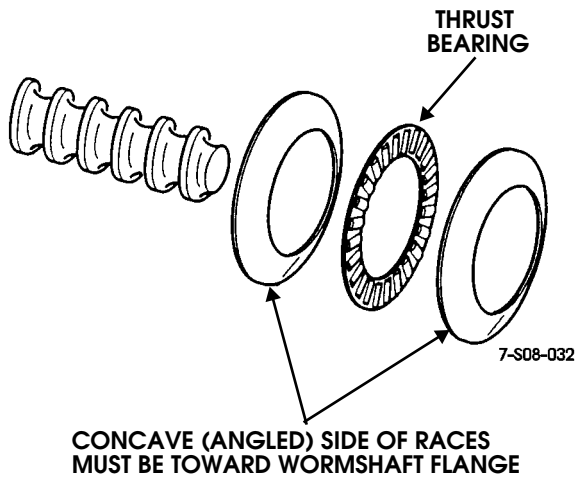

Figure 8-58: Aligning and Seating Stub Shaft In Valve Body
5. Install spool in valve body with a turning motion (Figure 8-58). Note that O-ring end of spool faces out.
7. Lubricate wormshaft thrust bearings and races with petroleum jelly to hold them in place. Then install first race followed by the bearing and remaining race (Figure 8-58).